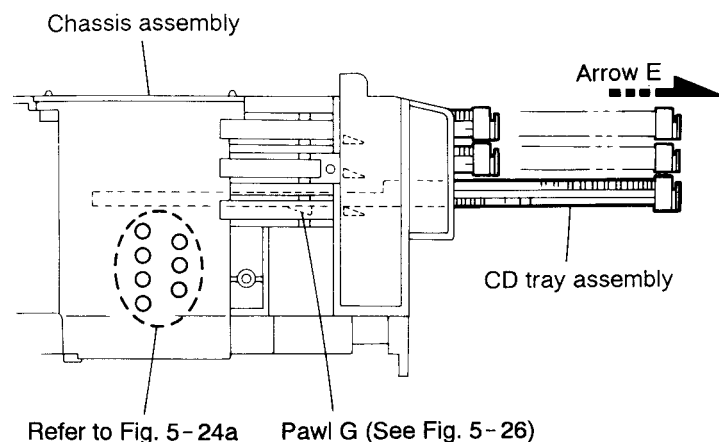

Fig. 5-35
14. Pull out all of the three stages of CD tray assembly in the arrow direction (E) until these stages stop (See Fig. 5-35).